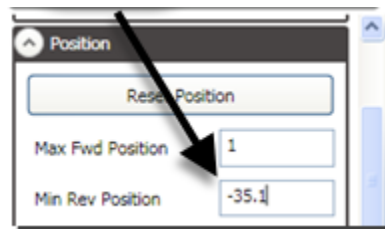

Figure 133
3. Type the **Position** value into **Min Reverse Position** field (Figure 133).